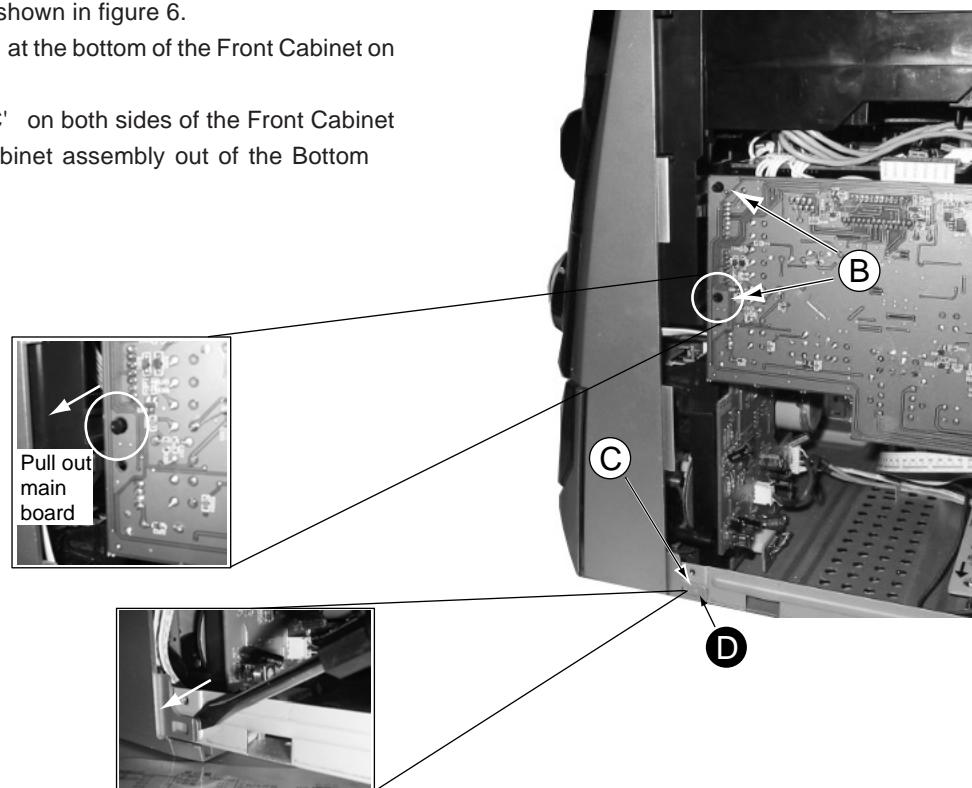

Figure 6
- 1) Release 2 catches ' B' to free the Main board from the Front Cabinet Assembly as shown in figure 6.